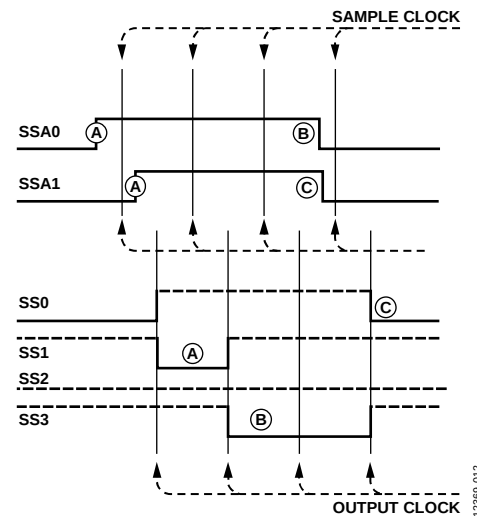

Figure 12. Mux Select Timing
Figure 12 illustrates the behavior of the SSA0 and SSA1 channels. This diagram assumes that $\overline{MSS}$ is low and that SS0, SS1, SS2, and SS3 are pulled up.
The following details the mux select timing shown in Figure 12:
- Point C: This point in Figure 12 shows a clean transfer between SS3 being active and SS0 being active. The mux was designed to eliminate any short duration metastable states between any two selected outputs.